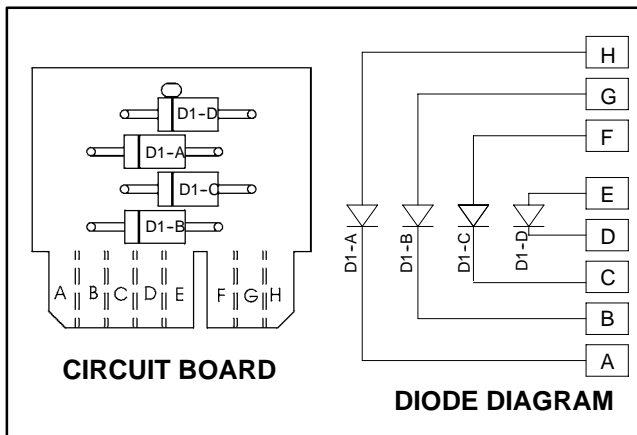

Figure 50
The diode circuit board (Fig. 50) contains four (4) diodes and is located under the console housing. Diode D1-A provides logic for the interlock system. Diodes D1-B (right wing deck), D1-C (front deck) and D1-D (left wing deck) provide latching circuits for the PTO relay.